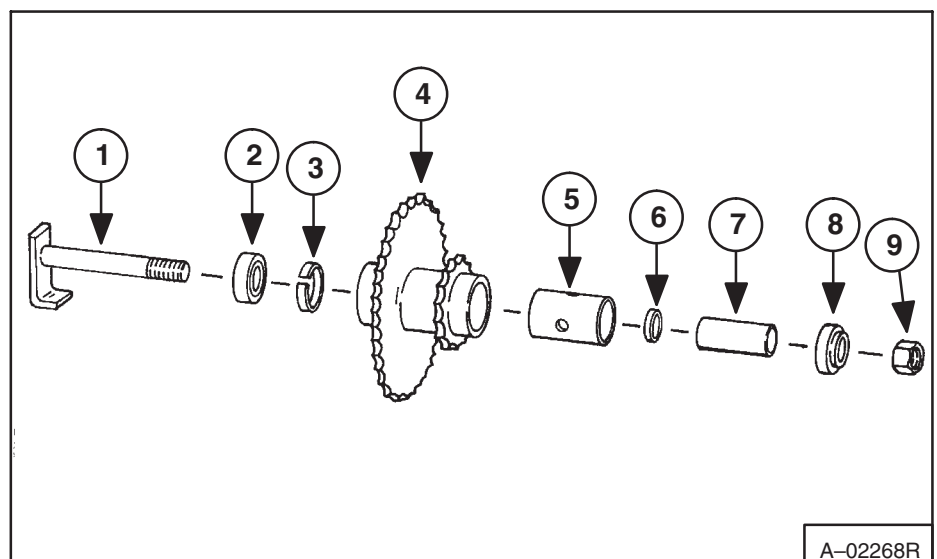

Fig. 4-21 Upper Jackshaft
#### 4-6.2 Assembly (Fig. 4-21)
2. Fit bolt (Fig. 4-21, Item 1) through side tank and sprocket assembly.